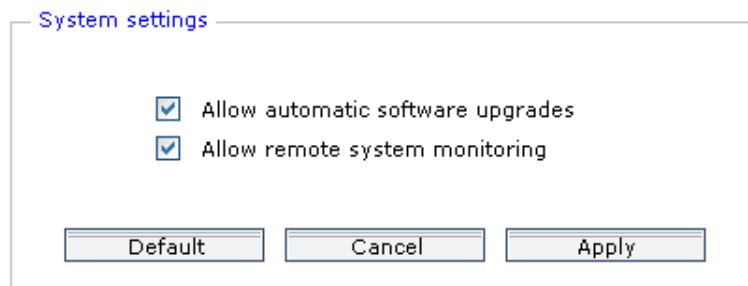

Figure 33: automatic upgrades and remote monitoring configuration.
4. "System settings" section offers options for automatic upgrades and remote monitoring control. By default myAudience-Count has remote software upgrade capabilities enabled. If you wish to disable the software upgrades (not recommended) uncheck the corresponding box. Same is applicable for the remote Measuring Device monitoring. By default it is enabled for the purpose of remote troubleshooting by production support staff and can be disabled at your option (Figure 33).